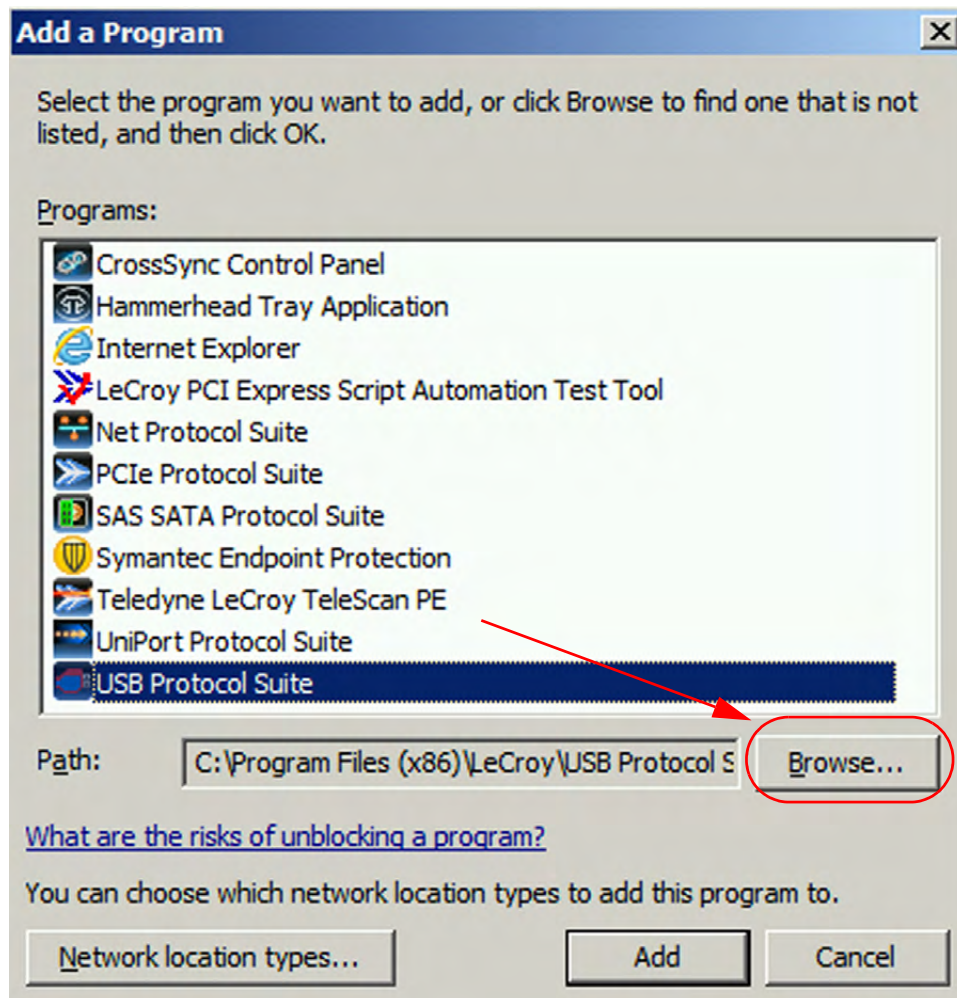

Figure 3.14: Windows Server 2008: Browse Button
5. In the “Add a Program” screen click on the “Browse” Button. See Figure 3.14.